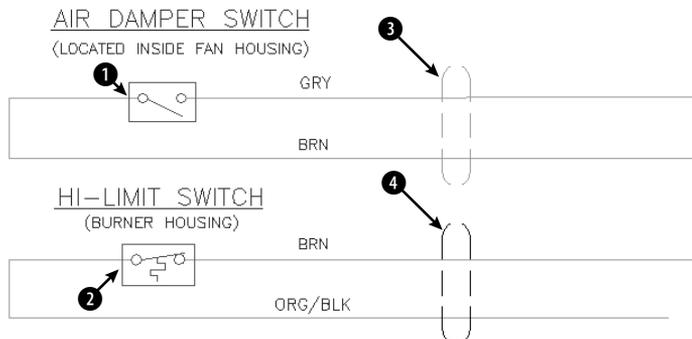

Figure 18-12: The electrical schematic has several blocks that have been inserted.
2. Save the file as *ab18-05.dwg* in your AutoCAD Bible folder. This is the same electrical schematic used in the previous exercise, except that the objects are now blocks that have been inserted (see Figure 18-12). OSNAP should be on. Set running object snaps for endpoint, midpoint, quadrant, and intersection. The current layer is Object.
3.  Choose *Explode* from the *Modify* toolbar. At the *Select objects:* prompt, choose the air damper switch at ❶ in Figure 18-12. Press Enter to end selection. The switch turns black or white (the opposite of your screen color) because it was created from objects whose color and linetype were set to *ByBlock*.